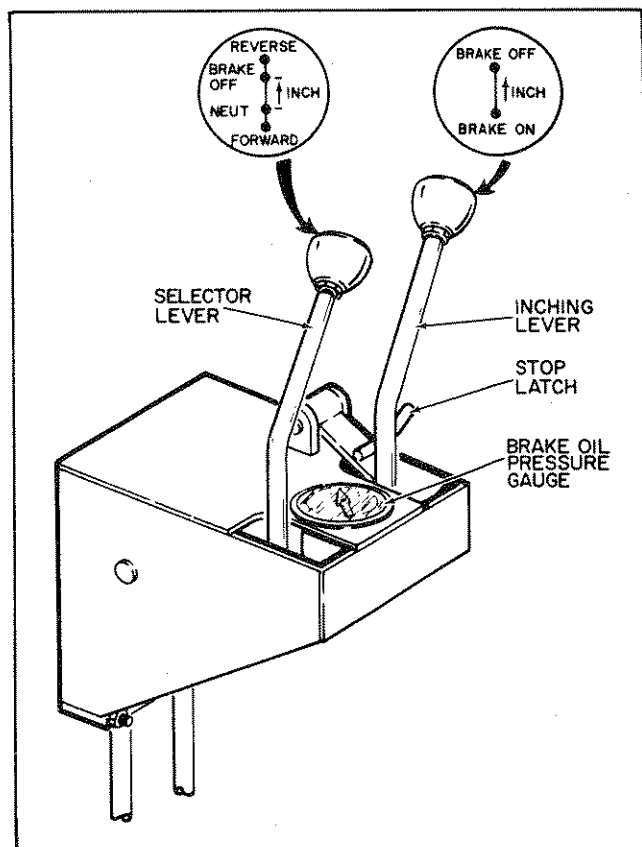

Figure 2-3. Operating Controls, Current Production Power Controlled Winch
(See Figure 2-3.) There are two different shift patterns that can be selected for winch operation. These are Normal Control and Fine Inching Control. The Normal Control shift pattern should be used for routine or normal operation encountered in logging and heavy construction. The Fine Inching Control should be used in: (1) Pipelining for positioning pipe and lowering backhoes, (2) Oil field work in rigging wells, towing and leveling derricks, and placing pipe, (3) Mining for towing control stations and matching pipe flanges, (4) General Construction for various handling, raising, lowering, towing, yo-yo operation and rescue work. Operating procedures for Normal Control and Fine Inching Control on current production handling gear are contained in paragraphs 2-18 and 2-19.